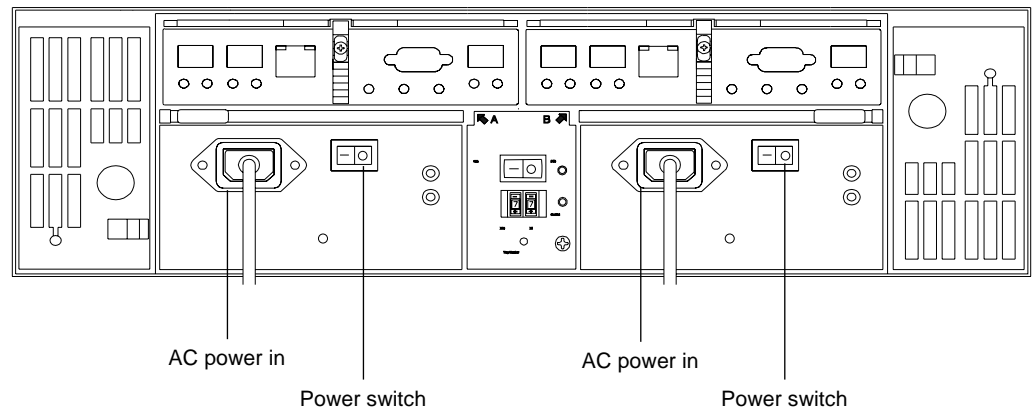

Figure 5-10 Power Connections and Switches of the Enclosures
3. Plug the power cords into each power supply of the storage enclosures (see “AC power in” in Figure 5-10). Plug the left-side power cords into the left PDU and plug the right-side power cords into the right PDU.
6. Turn on both power switches on the rear of each expansion enclosure. Then turn on both power switches on the rear of the controller enclosure (see Figure 5-10).